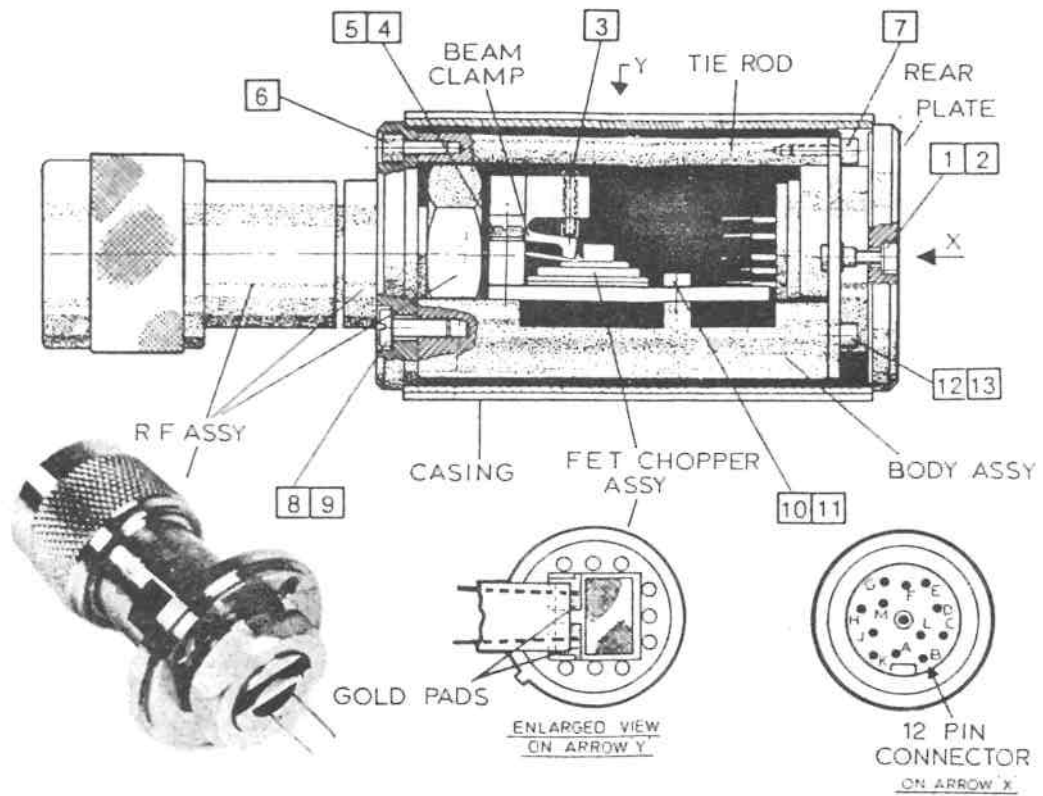

Fig. 5-1 Access and layout diagram
- (1) Carefully measure the voltage across the gold pads on the FET chopper assembly (see inset, Fig. 5-1).
- (2) If the voltage is 100  $\mu$ V or greater, the RF assembly is functioning correctly. In this case, test the FET chopper assembly as described in the next section.
- (3) If the voltage is less than 100  $\mu$ V, remove the sensor from the 1 mW reference. Remove the tie rod by removing screws [6] and [7] with the allen key.
- (1) Disconnect the sensor from the 1 mW reference and remove the sensor cable. Remove the beam clamp as described in step (3) of "Testing the RF assembly".
- (2) Connect together sockets B, G and H of the 12 pin connector (see Fig. 5-1 inset) to turn both of the chopper's FETs on.
- (3) Measure the resistance between the two gold pads. This should be approximately 100 - 200  $\Omega$ .
- (4) Disconnect the link between sockets B/G and socket H. Apply -5 V to socket H. This will turn off the parallel FET of the chopper. The resistance measured across the gold pads should now be greater than 10 k $\Omega$ .
- (5) Disconnect the link between sockets B and G. Connect socket H to socket B and apply -5 V to socket G. This will turn off the series FET of the chopper. The resistance measured across the gold pads should be greater than 10 k $\Omega$ .